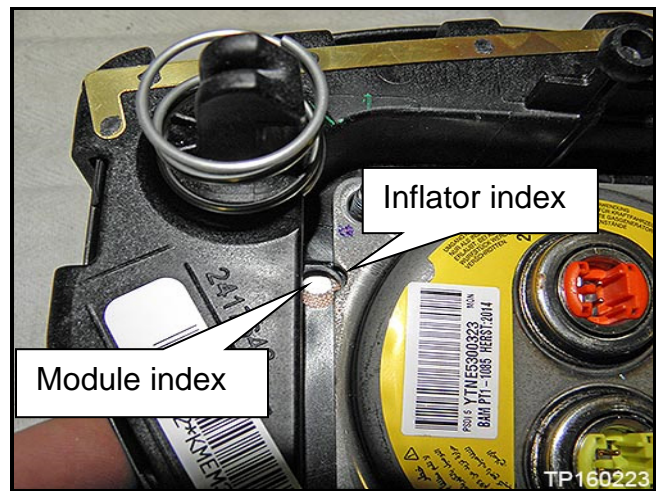

Figure 30
- Line up the indexing marks on the inflator and module shown in Figure 30.